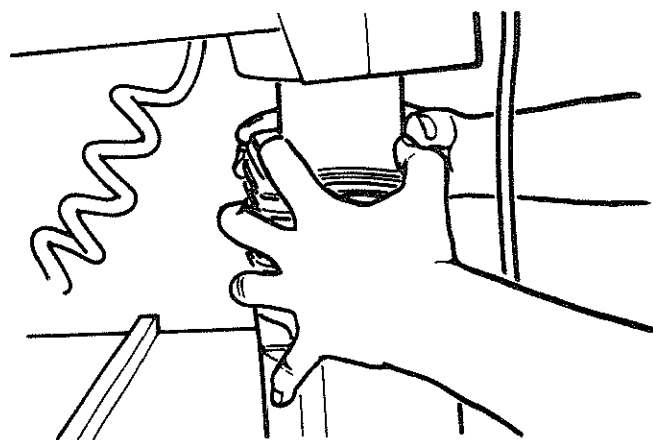

Fig. 176 - Collapsed Bellows
- A light film of oil should be wiped on the face of the *column tube* to lubricate the fit between the *column tube* and *column support*. With elevation *hand-wheel* raise *arm* to upper limit. Completely collapse bellows by pulling down on top flange as illustrated for access to *column tube*. (Figure 176)